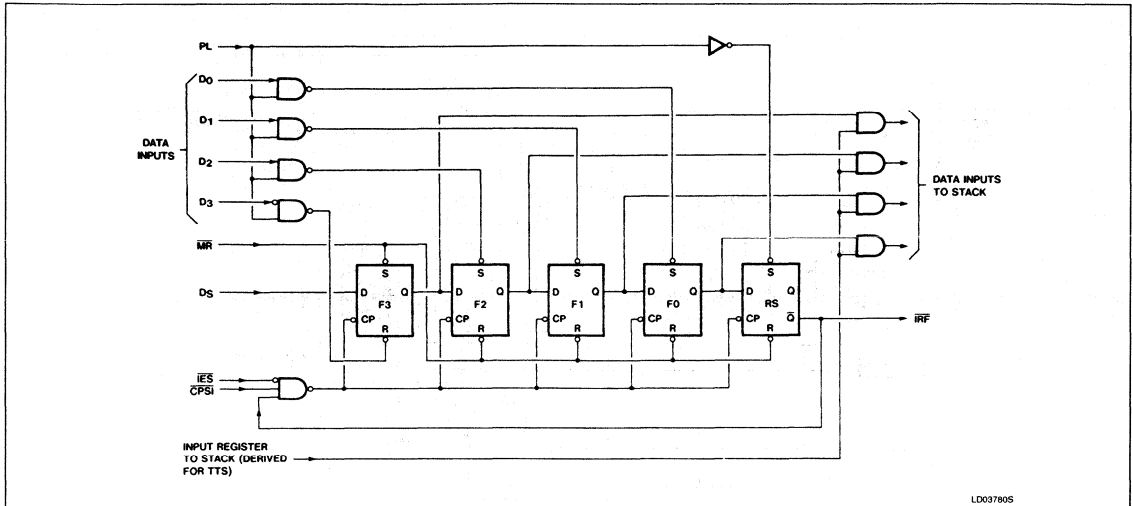

Figure 2. Functional Equivalent of Input Register
Data can be entered serially or, using the parallel mode of operation, data is entered in 4-bit increments. In either case, the data is subsequently transferred to the fall-through stack; the functional equivalent of this register is shown in Figure 2. The Input Register Full (IRF) status signal is internally generated by the Register Status (RS) flip-flop; when initialized, the \bar{Q} (IRF) output of this flip-flop is high.
When PL is high and CPSI is low (Figure 2), flip-flops F0–F3 are loaded with data and IRF is forced low. This condition remains until current data is transferred to the stack. Once the data is transferred, IRF is driven high and new data can again be clocked into the input flip-flops. If parallel expansion is not being implemented, IES must be low to establish row mastership—refer to discussion of parallel expansion.
As shown in Figure 2, the outputs of F0–F3 are applied to the stack under control of a signal derived from TTS. When TTS is low, an attempt to initiate a fall-through action is made. If the top location of stack is empty, data is loaded and the input register is reinitialized provided PL is low. Note that initialization is postponed until PL is again low. Thus, automatic FIFO action is achieved by connecting the TTS input to the IRF output.
The RS flip-flop (Figure 2) records the fact that data has been transferred to the stack; this flip-flop is not cleared until PL goes low. Therefore, if a particular data word is transferred to the stack and falls to the second location before PL goes low, the same word will not be re-transferred even though IRF and TTS are still low. Once data enters the stack, "fall-through" is automatic; a delay is